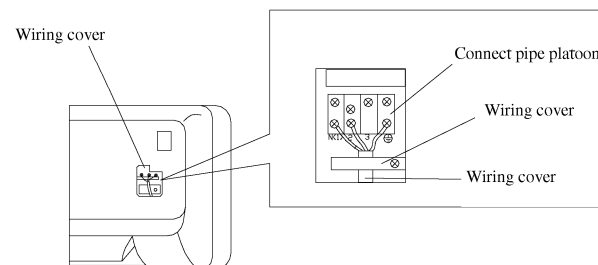

Fig.4
4. Connect the blue wire of the power connection cord to the terminal “N (1)”, the brown one to “2” , and the yellow-green one (earth wire) to “⊕ ” . Compact the power connecting pipe with the coarchtate trough listed in front of the connect pipe platoon on the appliance box, as shown in fig.4.